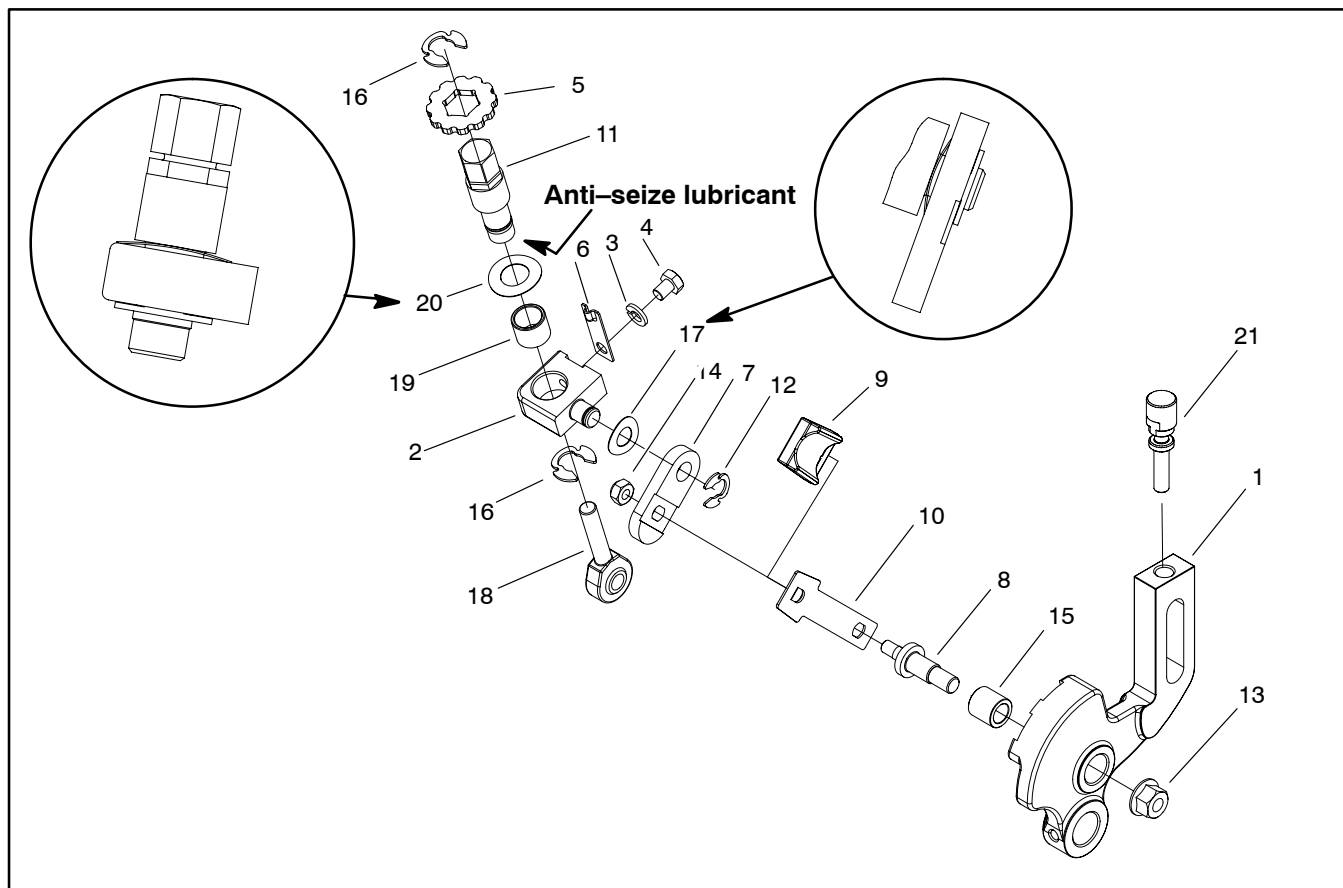

Figure 18
2. Disassemble adjuster arm using Figure 18 as a guide. **Note:** Right and left side adjuster arms are different; other components in Figure 18 are the same on both sides.
2. Assemble adjuster arm using Figure 18 as a guide. **Note:** Orientation of spring washer (17) and curved washer (20) is important for correct operation. See insets in Figure 18 for proper washer installation.